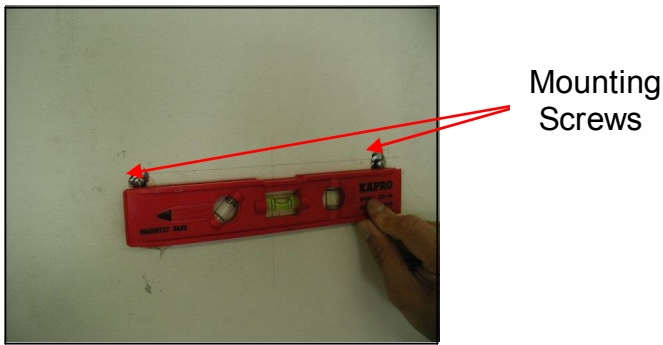

Figure 5
2. Secure two mounting screws (not provided) on the wall leaving 1/8" away from the wall. Refer to Figure 5.